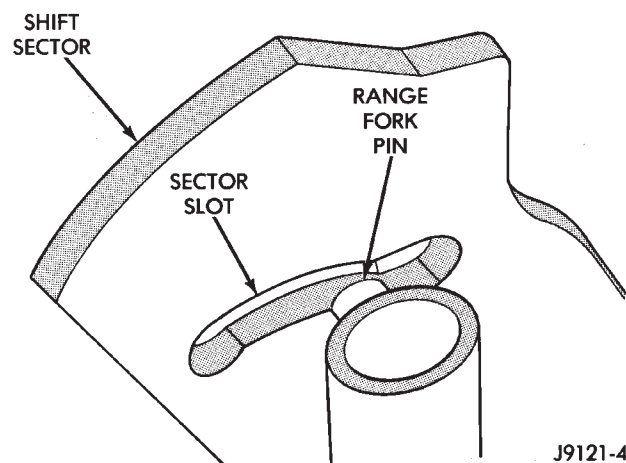

Fig. 44 Seating Range Fork In Sector
(27) Engage range fork pin in sector slot (Fig. 44).
(28) If drive sprocket bearings are to be replaced, remove and install them as follows: